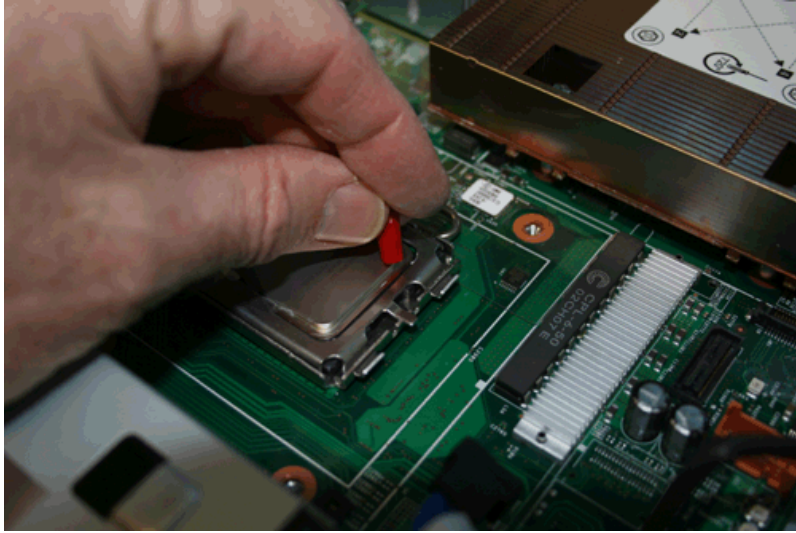

Figure 287. Estimating the position of the thermal grease dots
- a. Apply thermal grease to the top of the microprocessor. Apply nine dots of thermal grease in three rows of three dots each with the outer rows approximately 5 mm from the edge of the microprocessor. The diameter of the cap from the thermal grease syringe is 5 mm, so you can use it to judge the required position of the dots of thermal grease, as shown in Figure 287 on page 306.